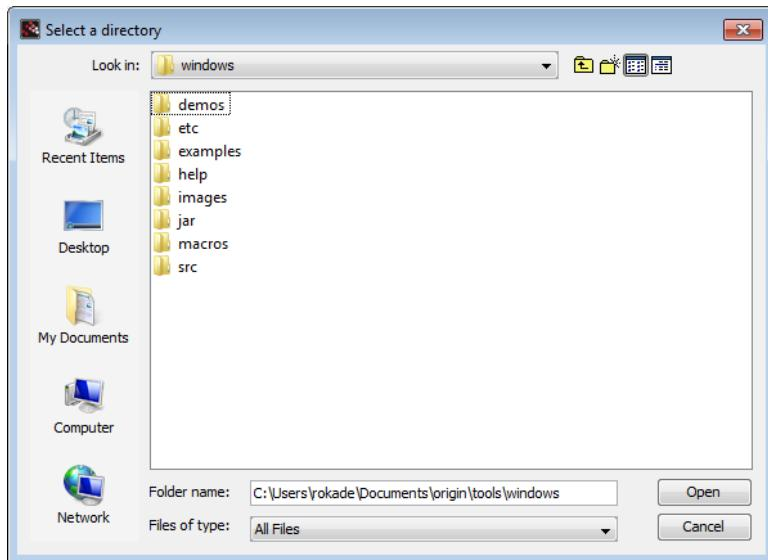

Figure 3.7: Browsing toolbox directory
3. Then, one has to browse to the toolbox folder Origin/tools/scilab/windows or Origin/tools/scilab/linux, as the case may be, and click on, Open, as shown in Fig. 3.7.